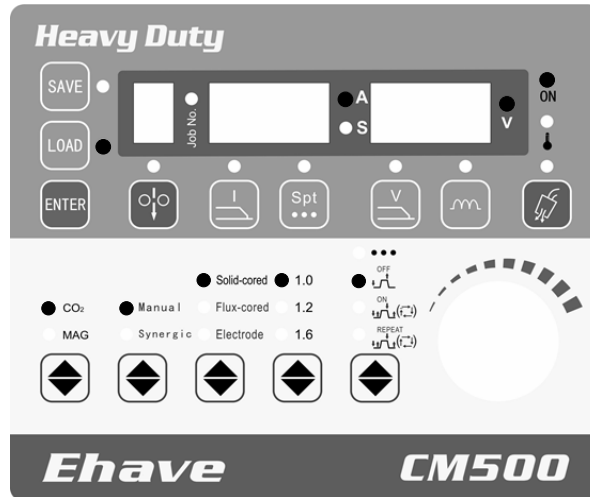

Figure 3-22 Loading parameter settings
4. Figure 3-22 shows the control panel where the parameter settings are loaded.